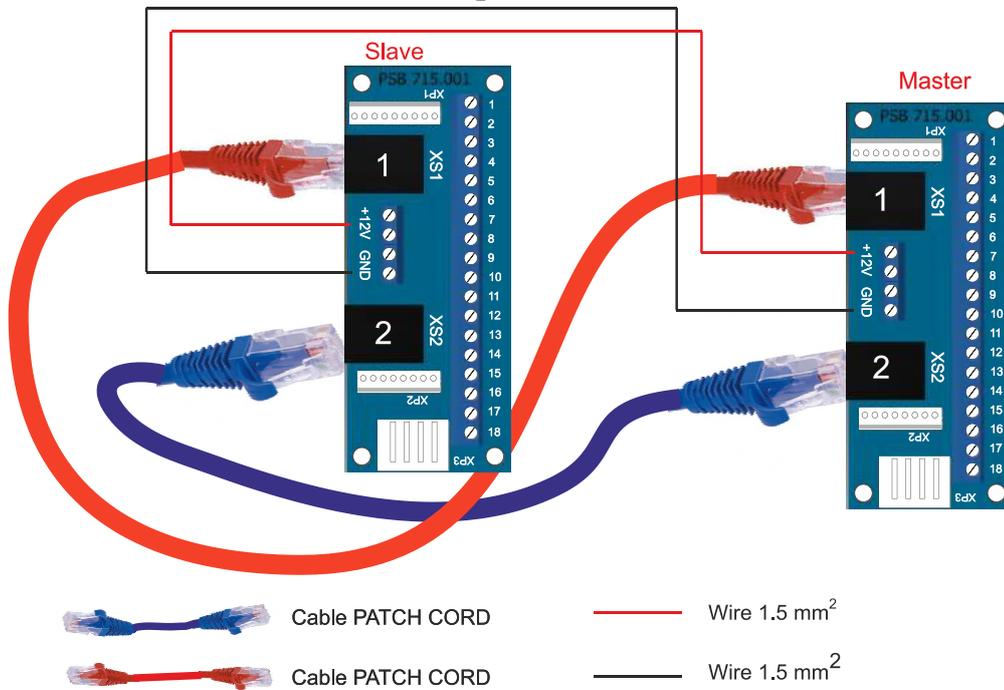

Fig. 15 – Options of cable connection between cabinets Master and Slave
- Cables between cabinets (Fig.15);